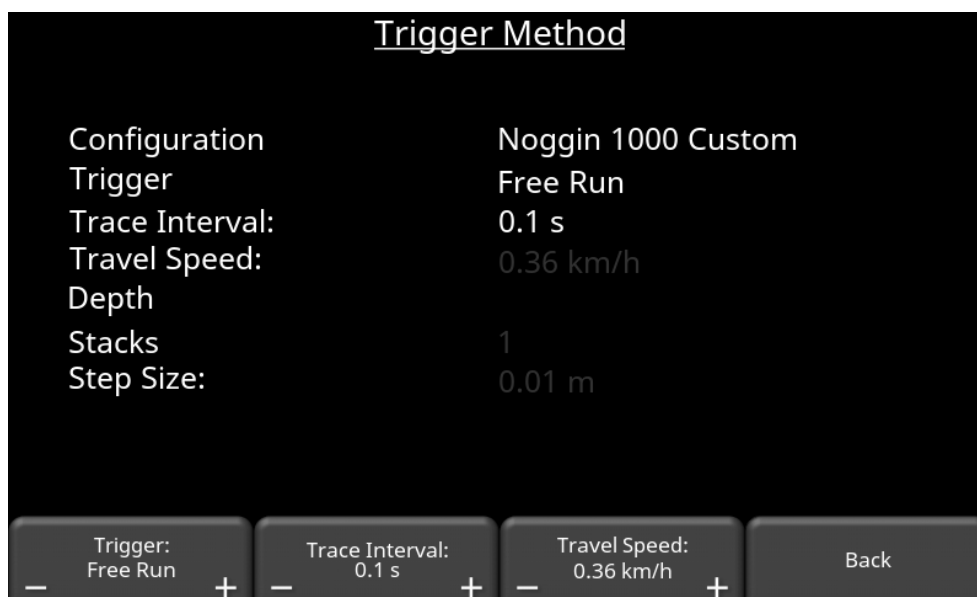

Figure 5-10: Free Run mode, with a trace interval of 0.1s
The user has the option to control the trace interval or the travel *speed*, such that the programmed step size (*distance*) is maintained. For example, if step size is 0.01m, and the user sets a trace interval of 0.1s, they must collect data at 0.36 km/h, as illustrated in Figure 5-10. This time-speed pairing will also vary as stacks and scan depth are changed.
- **Back** – Press this to return to the Custom Config menu (Figure 5-10)